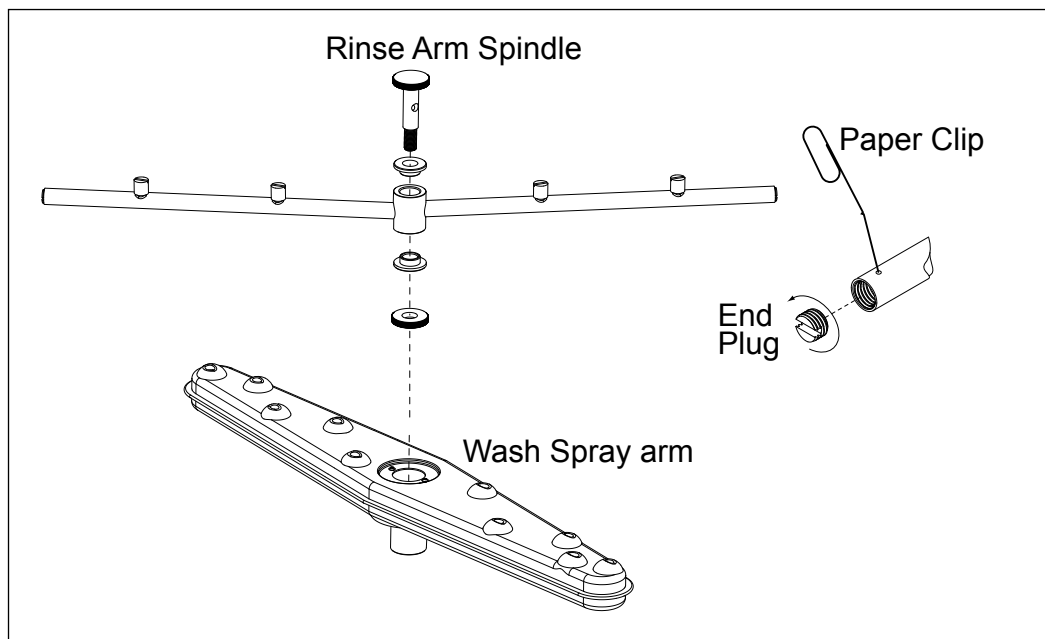

Fig. 8
- Check the rinse spray arm nozzles. If necessary, remove the end plugs and clean the nozzles with a small paper clip. Flush the arms clean and replace the end plugs (see Fig. 8).